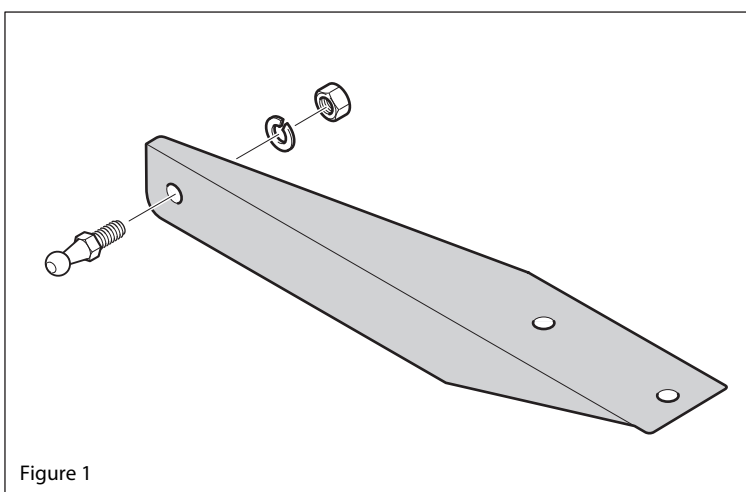

Figure 1
5. Assemble a ball stud to the bracket as shown in figure 1.